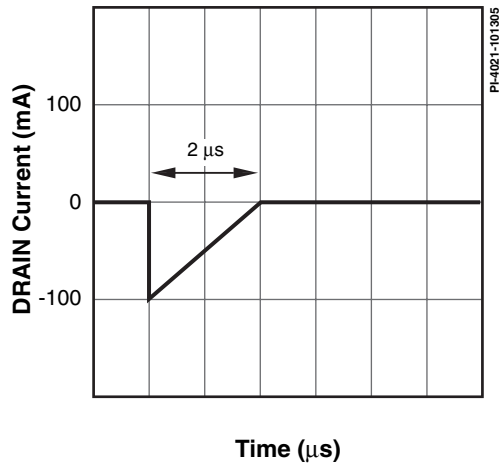

Figure 9. Peak Negative Pulsed DRAIN Current Waveform.
4. Negative drain voltages – clampless designs may allow the drain voltage to ring below source and cause reverse currents to flow from source to drain. Verify that any such current remains within the envelope shown in Figure 9.